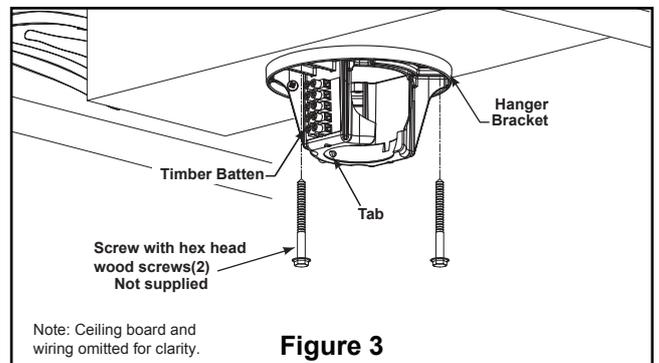

Figure 3
- 1. Drill a hole in the ceiling board and batten for wiring. Securely attach the hanger bracket to a timber batten or other structural support using appropriate fasteners. (Figure 3)